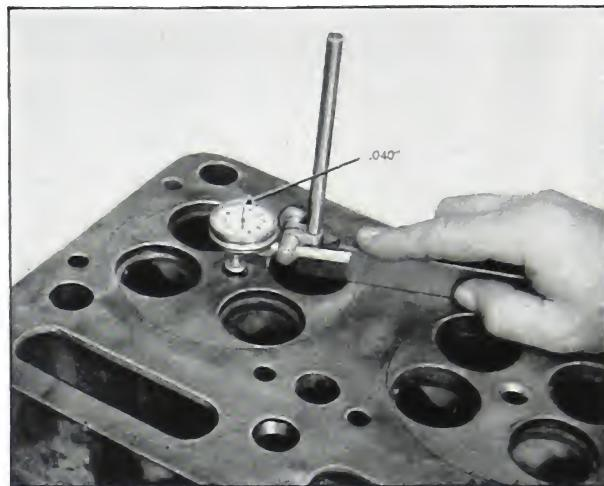

Fig. 3-3. Injector tip protrusion
4. Injector sleeves that have passed all the tests above should be further checked for seat depth. To do this, fasten an injector in place and gauge the injector tip protrusion. This can be done with Starrett 196-A indicator set or with a special slotted gauge. Injector cup tips should protrude .040 to .055 beyond the cylinder head as shown in Fig. 3-3. Reseated injector sleeves can be used until injector tip protrusion is as much as .065.